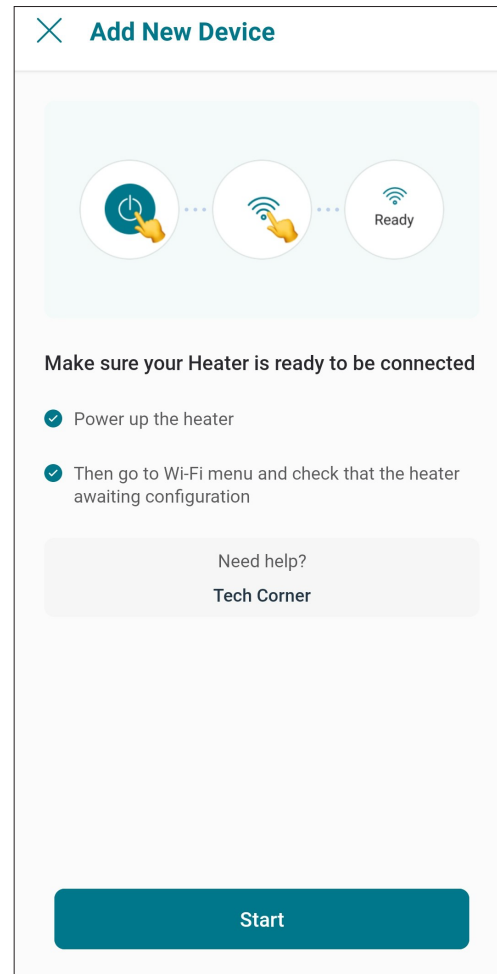

Figure 83. Check your Device
2. "Check your Device" screen will appear. Ensure to have AVIA heater powered and Wi-Fi signal available in the area, then press "Start" button. See Figure 83.